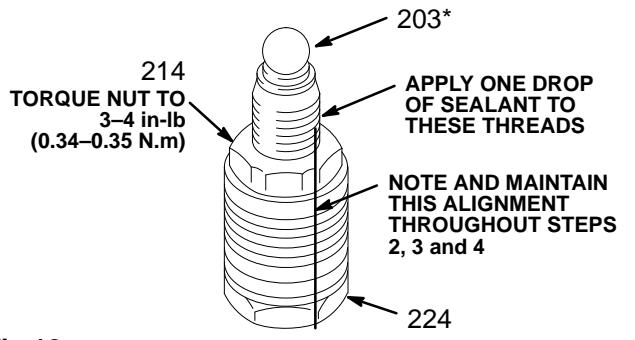

Fig 12
2. Tighten the packing retaining nut (214) against the gland (213) and torque to 3–4 in-lb (0.34 – 0.35 N.m). See Fig 12.
3. Apply *1 drop only* of sealant, supplied with the repair kit, to the piston valve threads. Place the small ball (203*) on the valve. See Fig 12. Hand tighten the valve into the rod (223) just until the nut contacts the rod. Place the flats of the displacement rod in a vise.